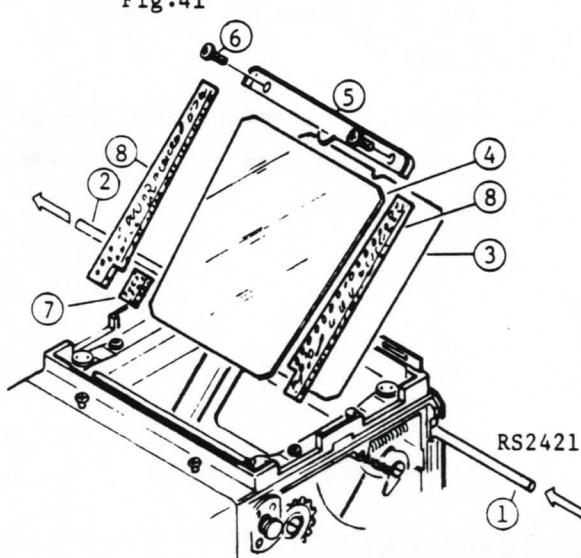

Fig. 42
(6) Attach Mirror in the order of the numerals in a circle as shown in Fig. 42.
(7) Mirror holder shall touch Stopper of both sides of the body.